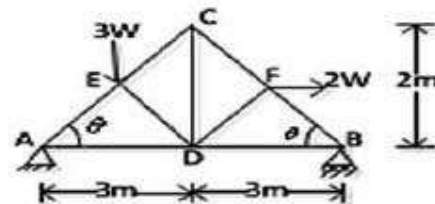

Figure 2
7. Calculate the magnitude and nature of the forces in the member of the truss as shown in Figure 2, by method of joints.